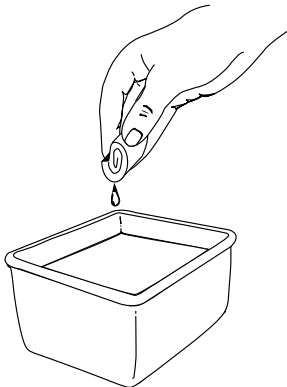

Fig. 33
3. Wash the filter in detergent and water (Fig. 33). Rinse the filter thoroughly and allow it to dry.